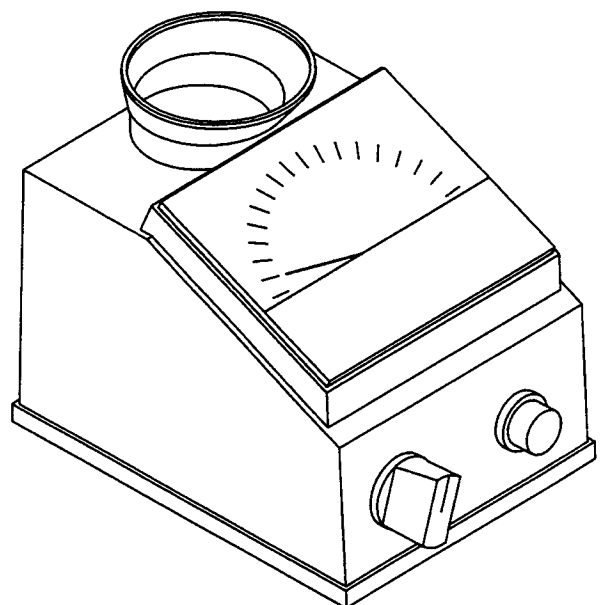

FIG. 16
- Rinse the cell cup twice with water to be tested, then fill to the top (Fig. 16).